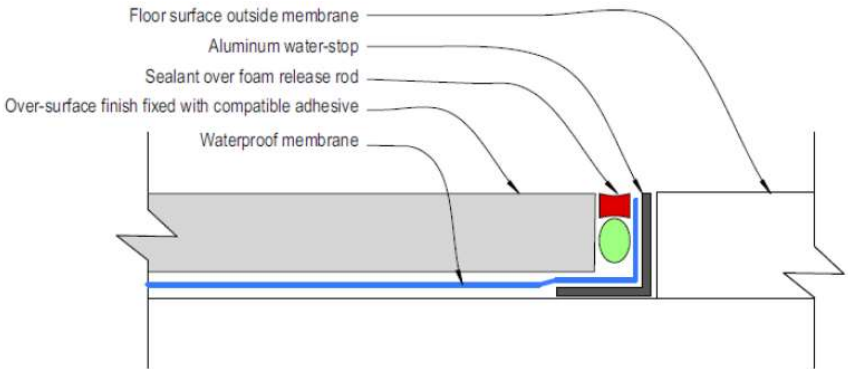

Figure 14: Water-stop at termination of waterproof membrane system
Water-stops must be constructed as shown in Figure 14 below.
2. Refer to Figure 14 (p45) for detailing of the water-stop.